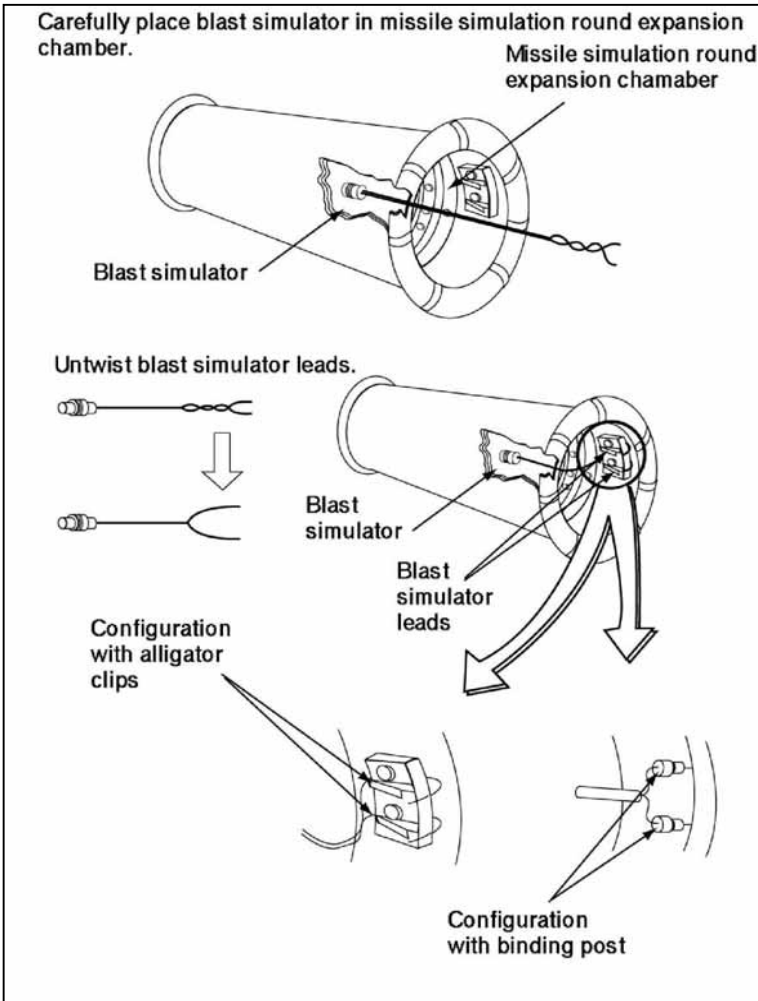

Figure 5-3-1: Blast Simulator Installed in Missile Simulation Round
9. **Loading the Blast Simulator.** Loading of the blast simulator is conducted in the following manner (see Figure 5-3-1):